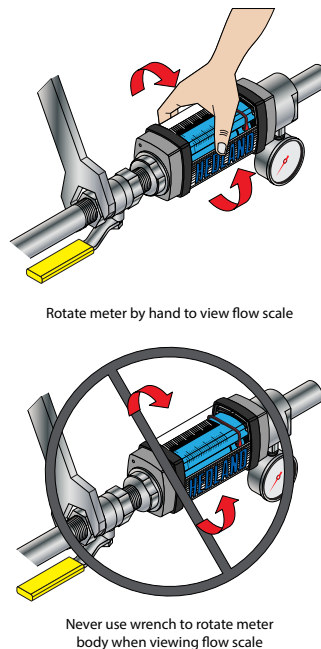

Figure 6: Rotating test kit
3. After installation, rotate the meter by hand to the view flow scale. See Figure 6.